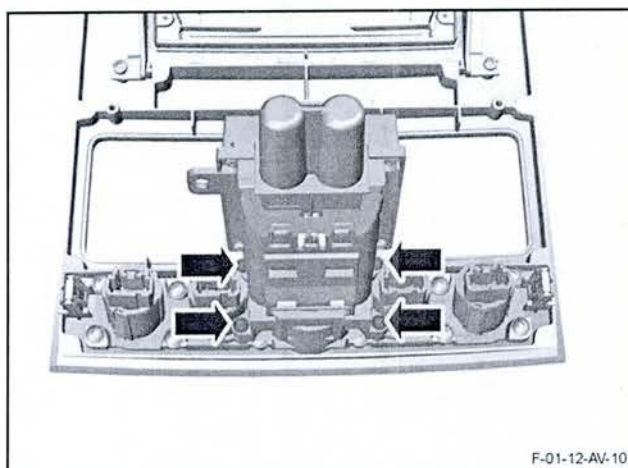

Figure 8
12. Remove the four Torx screws that attach the ignition switch module to the veneer bezel for the IP (refer to Figure 8).